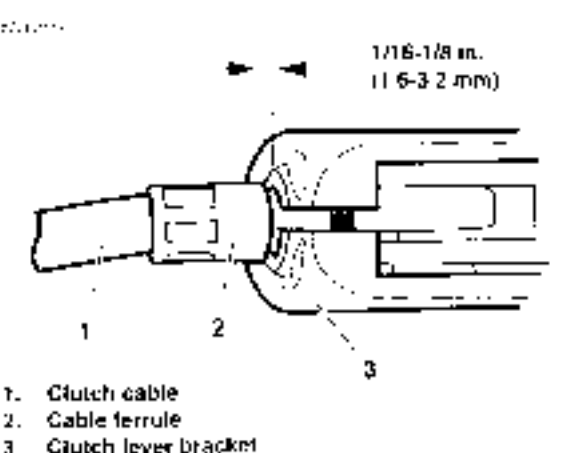

Figure 1-30. Clutch Hand Lever
- b. See Figure 1-30. Put clutch cable ferrule (2) away from clutch lever bracket (3) to check free play. Turn cable adjuster as necessary to obtain 1/16-1/8 in. (1.5-3.2 mm) free play between end of cable ferrule and clutch lever bracket.